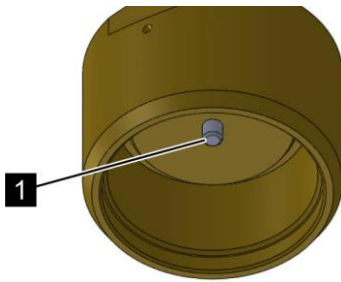

Fig. 159: Release pin
8. ➤ Check whether all release pins (Fig. 159/1) are in deactivated status. In deactivated status the release pin protrudes 3.9 ± 0.4 mm (0.15 ± 0.016 inches).